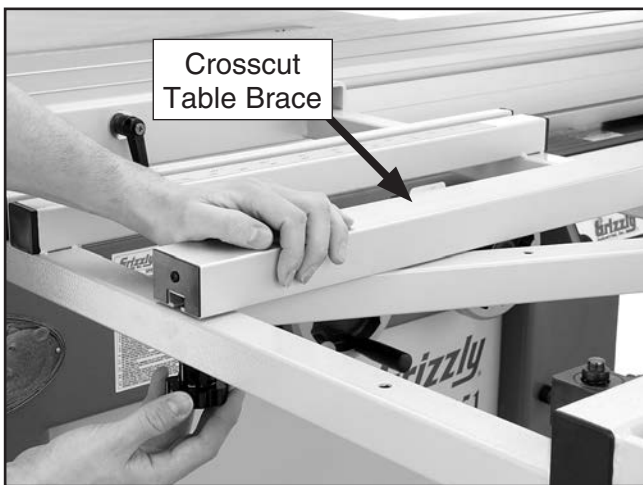

Figure 54. Installing the crosscut table brace.
49. Slide two M8-1.25 T-nuts into the crosscut table brace. Align the T-nuts in the crosscut table brace with the holes in the crosscut table, and thread the two M8-1.25 x 50 knobs, with two 8mm flat washers, into the T-nuts as shown in **Figure 54**.